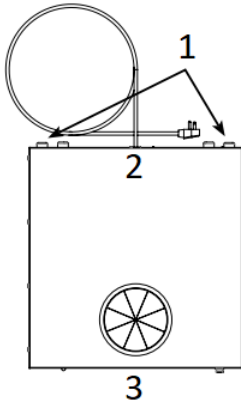

Figure 1
5. Plug in BDS, place in position. BDS unit should be placed up to a wall against the back bumpers (see Figure 1).